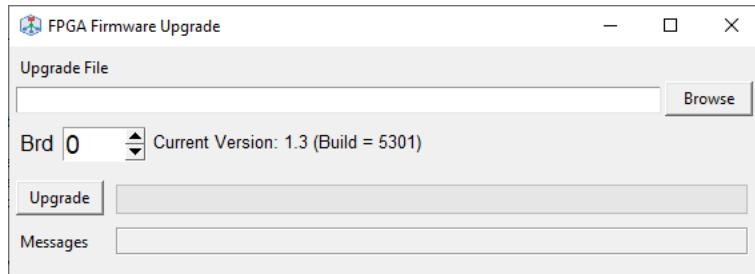

Fig. 3.5: FPGA firmware upgrade window.
- *Upgrade FPGA*: The command opens a window (see **Fig. 3.5**) that allows the user to browse the firmware file to upgrade the FPGA and to visualize the progress of the upgrade. Compliant firmware has .ffu extension.